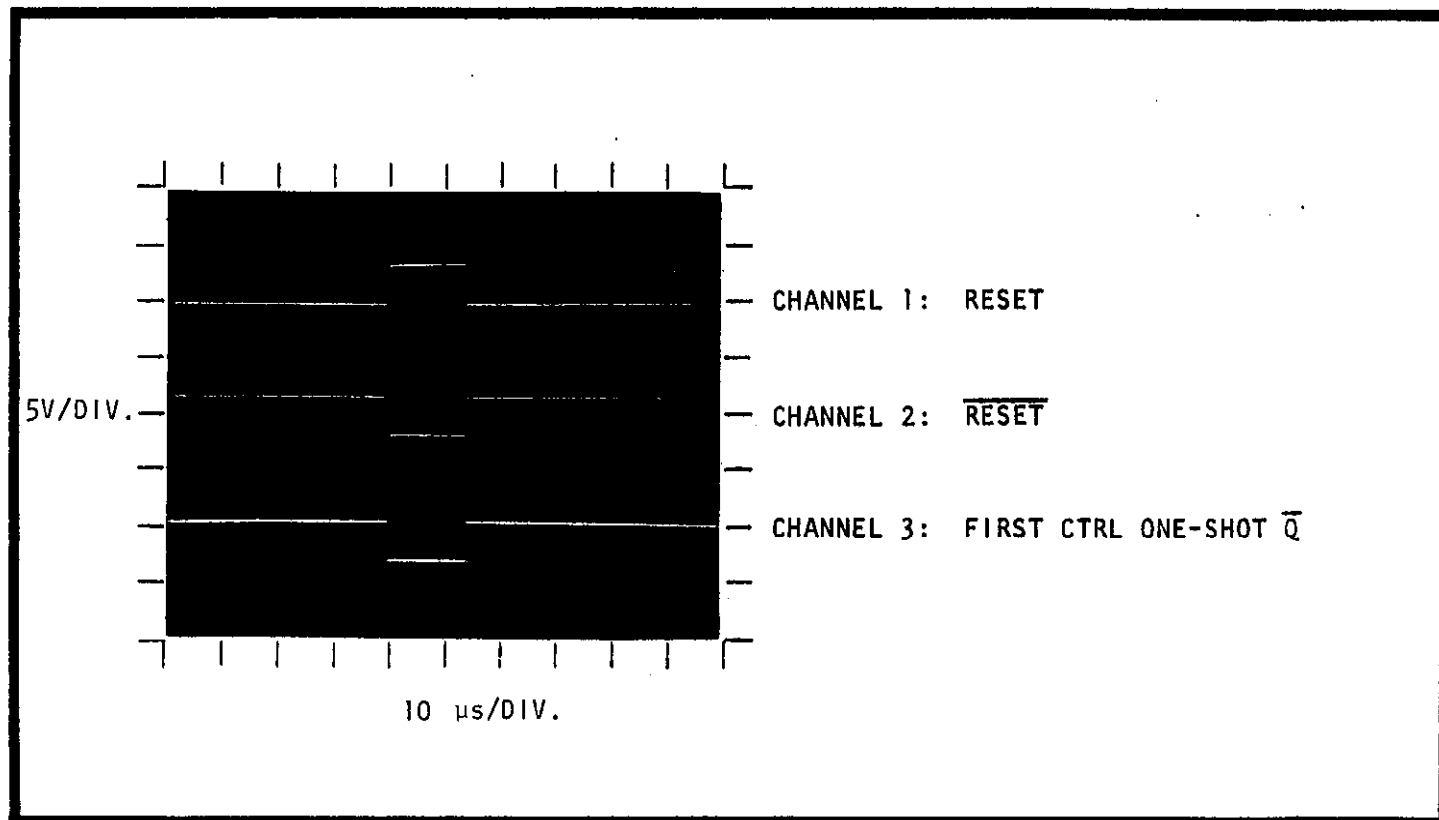

FIGURE 21. Trace For Test #16.
6. Verify that the FIRST CTRL one-shot \overline{Q} goes to Logic "0" when RESET goes to Logic "1", as shown in Figure 21.